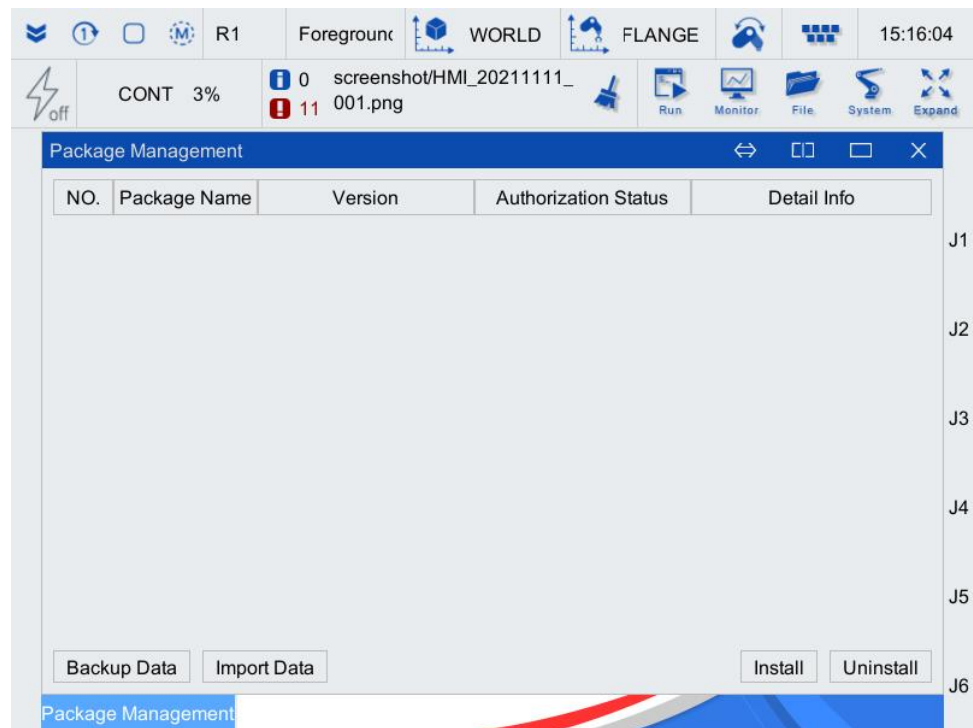

Figure 2-2 Package Management interface
Step4. Click function [Package Management] to open the [Package Management] interface as shown in Figure 2-2.